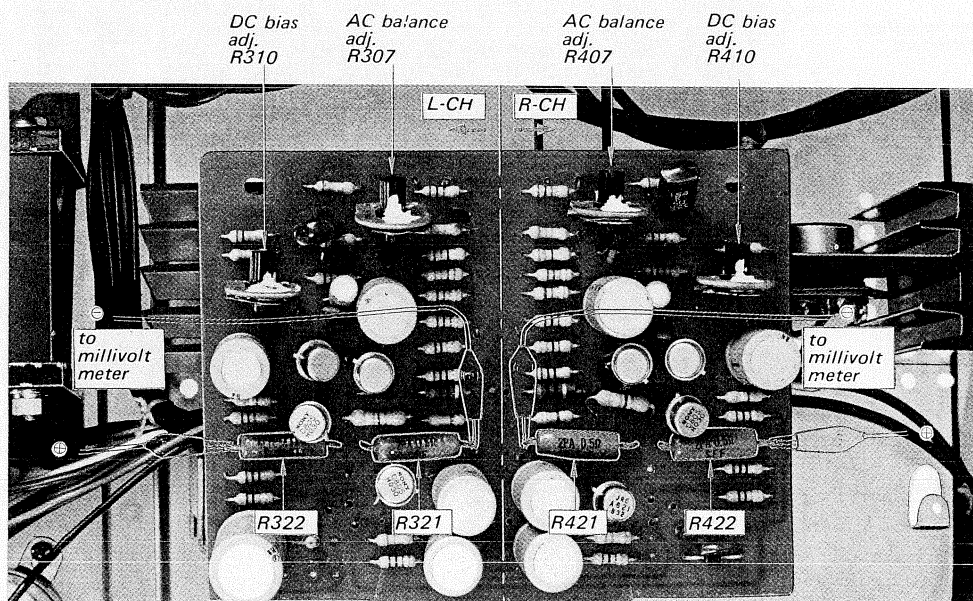

Fig. 3-1 Power amplifier adjustment
To avoid accidental power transistor damage, increase the ac line voltage gradually (using a variable transformer) while measuring the voltage across emitter resistors R321 and R322 (or R421 and R422) as shown in Fig. 3-1. Check to see that the reading does not exceed 50 mV. If it does, turn off the power immediately, then check and repair the trouble in the power-amplifier board.
2. Connect the dc millivoltmeter between R321 and R322 (R421 and R422) as shown in Fig. 3-1.
1. Apply a drop of cement solvent to the semifixed resistors (Fig. 3-1).